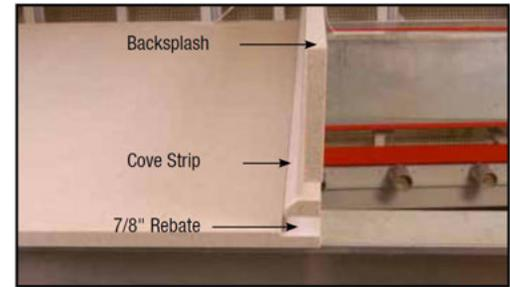

Figure 20A
- Cut EOS^{CU} Hard Surface backsplash to desired height. (FIG.20A)
- Allow 7/16" (11.3mm) for cove strip. (FIG.20A)
- Cut a 7/8" (22.23mm) strip for coving. (FIG.20A)
- Cut 7/8" (22.23mm) x 1/16" (1.6mm) rebate into the EOS^{CU} Hard Surface deck to accept cove strip (FIG.20A)